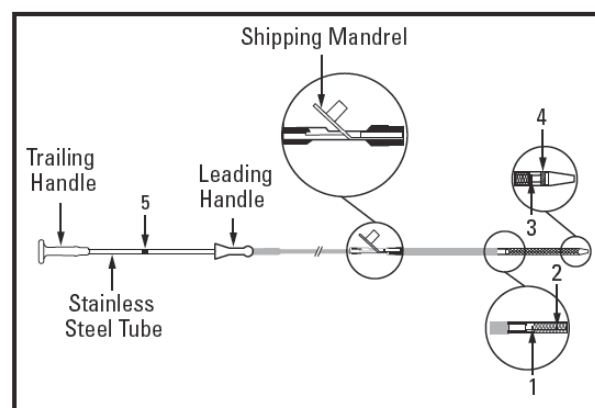

Figure 2. WallFlex Biliary RX Stent System
The delivery system is a coaxial tube design. The exterior tube is used to constrain the stent before deployment and reconstrain the stent, if stent repositioning is necessary, after partial deployment. The exterior tube has a clear section so that the constrained stent is visible. A yellow transition zone on the inner tube of the delivery system is visible between the stent and the blue outer sheath. There are four radiopaque (RO) markers to aid in the deployment of the stent while using fluoroscopy (Figure 2).
There are two RO markers on the inner tube of the delivery system identifying the ends of the constrained stent (Figure 2, marker 1 and 3).
Between these RO markers is an additional RO marker that indicates at what point reconstraint is no longer possible (Figure 2, marker 2). The fourth RO marker at the leading end of the exterior tube indicates how far the stent has been deployed (Figure 2, marker 4). There is one visual marker on the interior tube between the handles to aid in the deployment of the stent (Figure 2, marker 5). The visual marker indicates the point at which reconstraint is no longer possible. The interior tube has a single central lumen to accommodate a 0.035 in (0.89 mm) guidewire.
Note: DO NOT remove the shipping mandrel from the leading end of the device (Figure 2), this will help facilitate guidewire access.